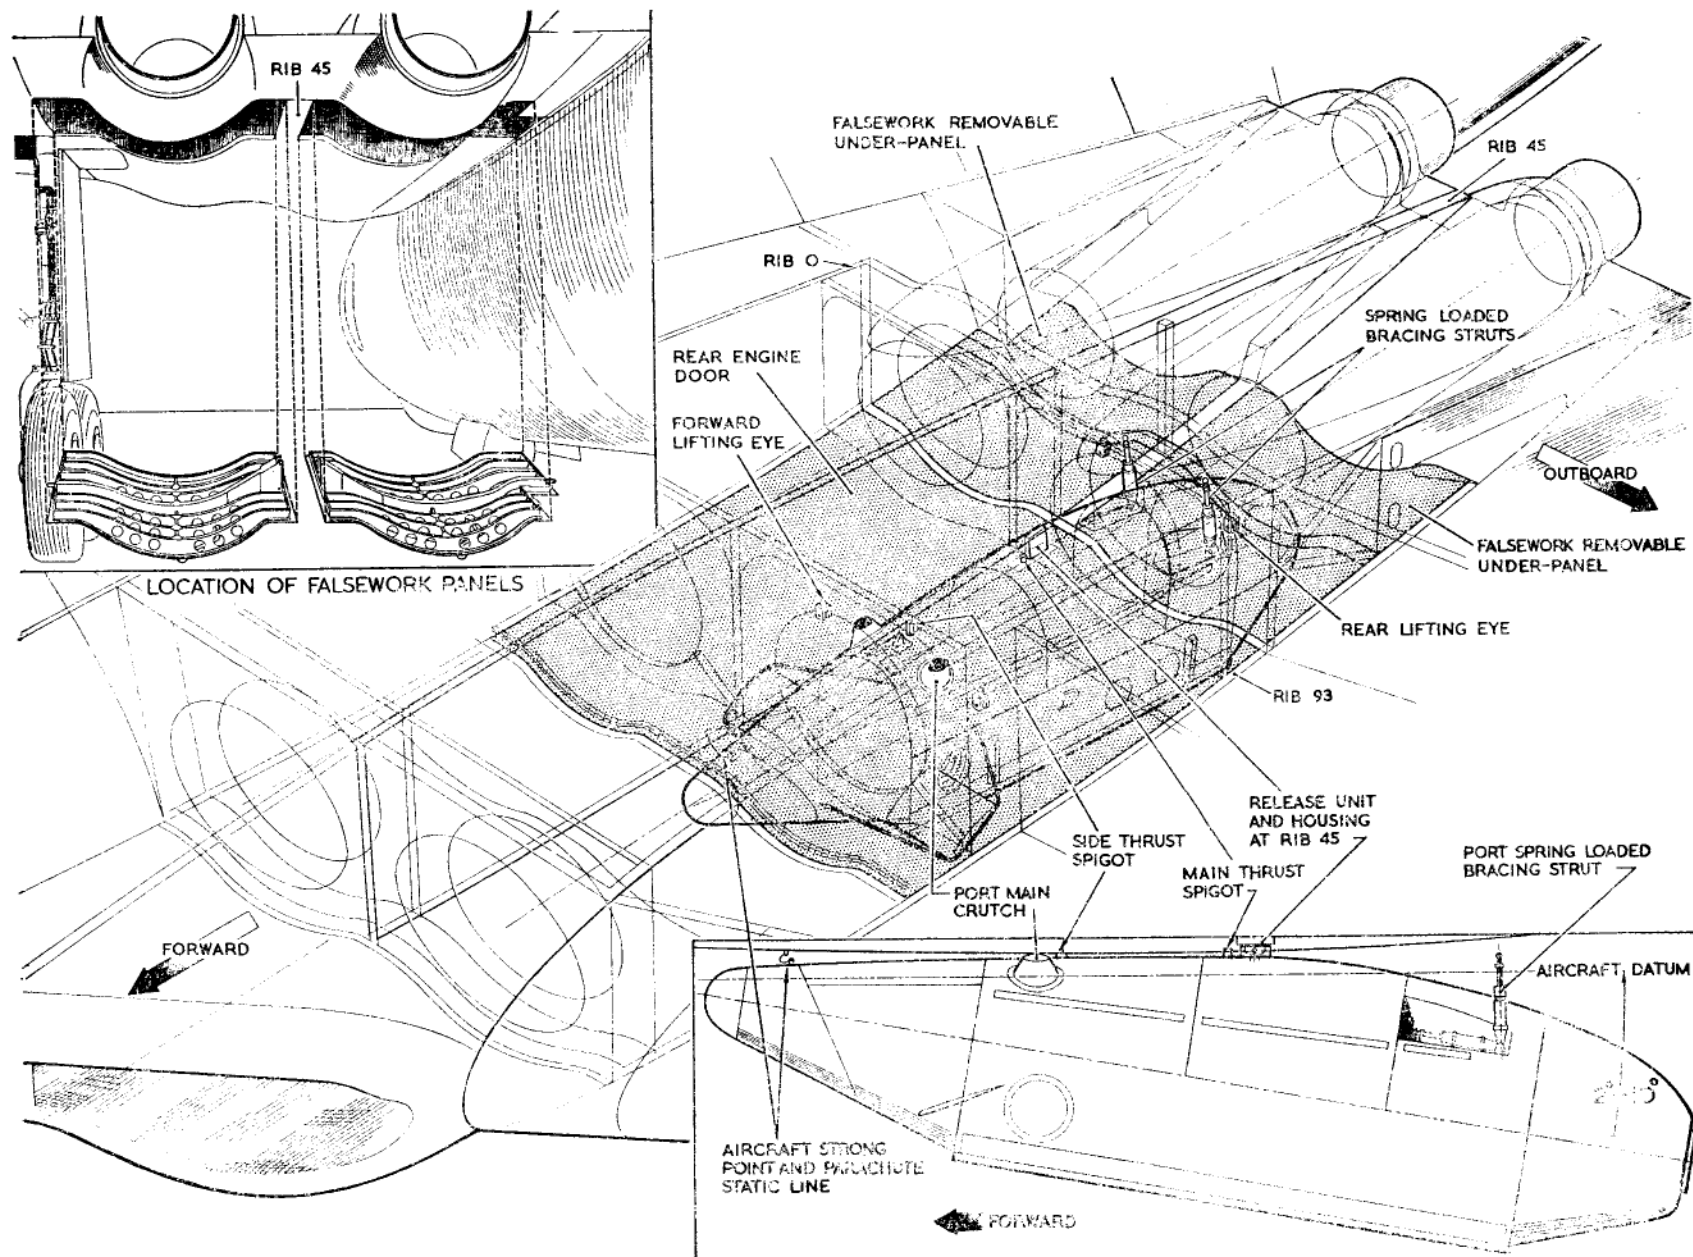
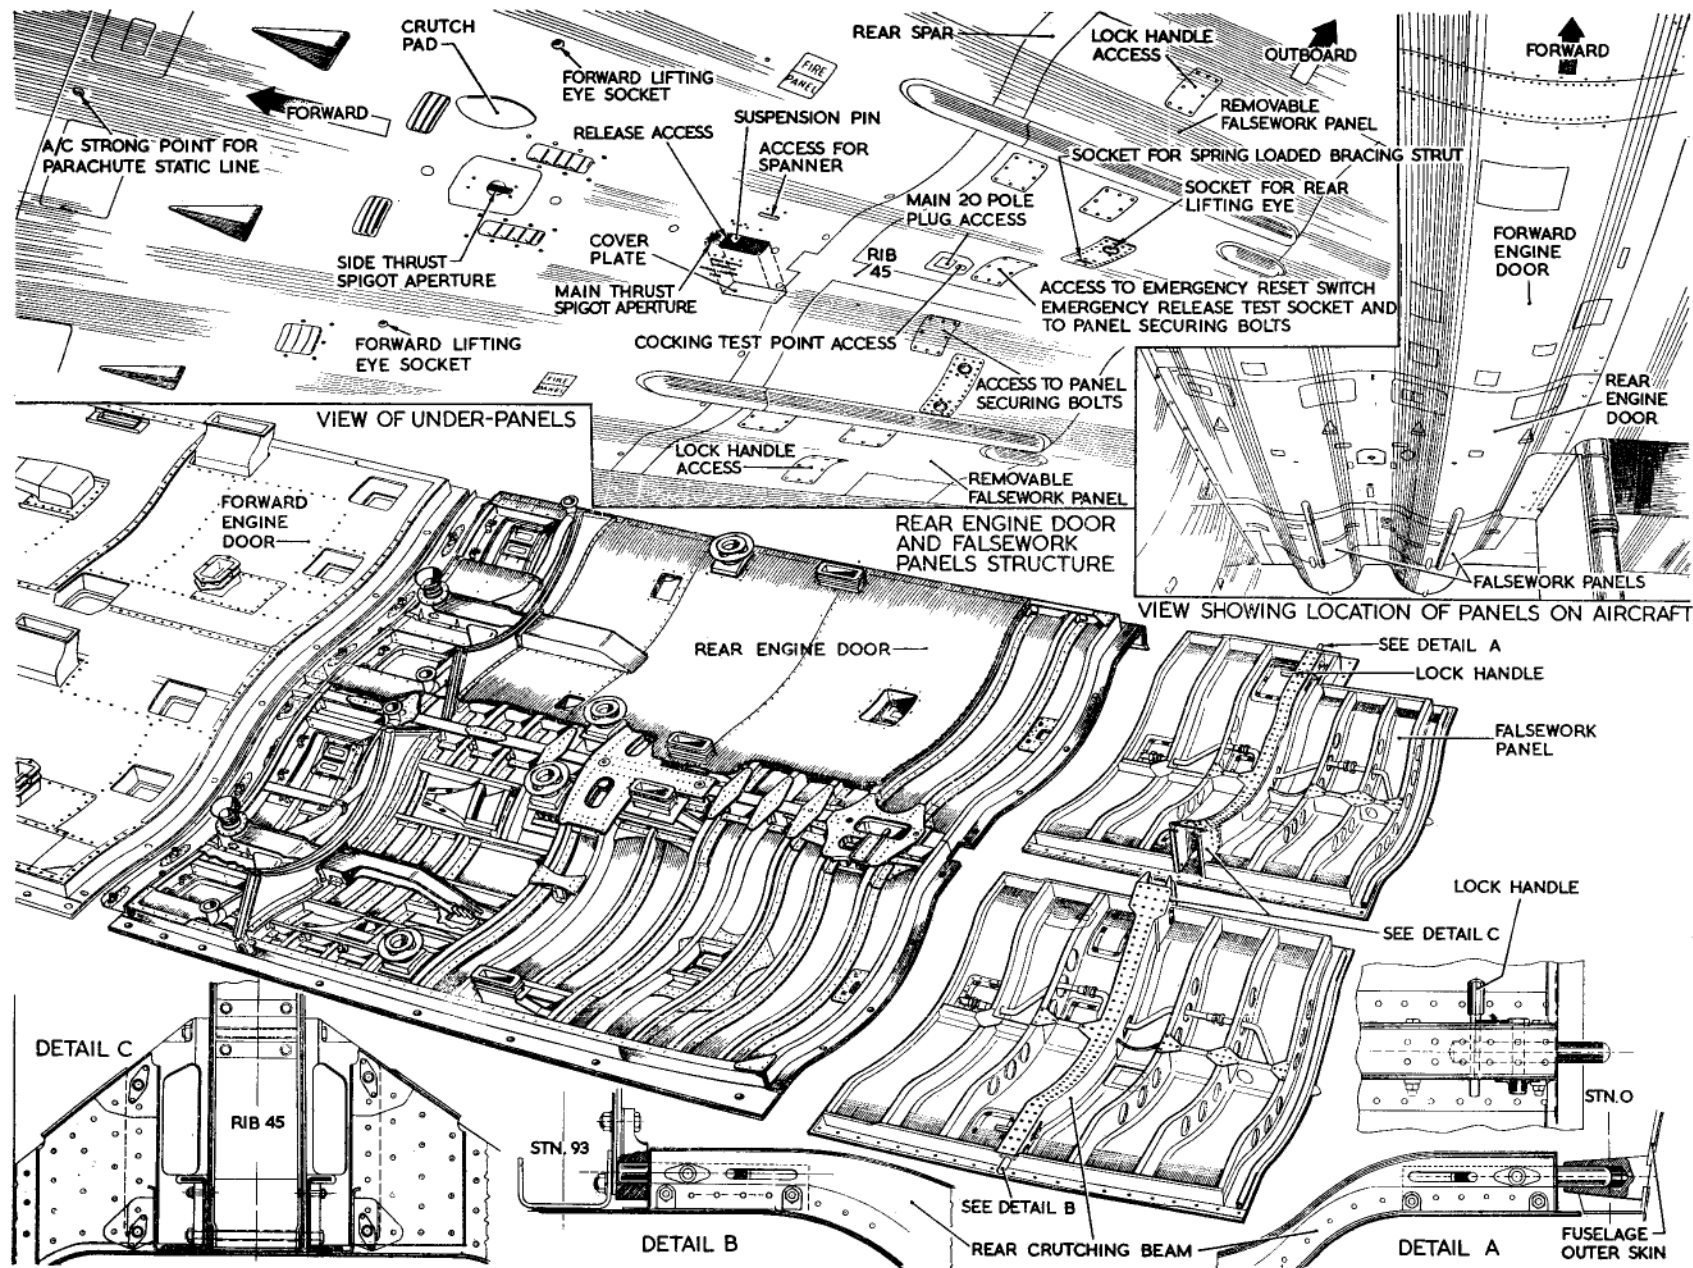

Fig. 1. R.A.T.O. unit location (port)
Fig. 3. Rear engine door and falsework panels
1. R.A.T.O. units can be fitted to Valiant aircraft that are structurally altered in accordance with Mod. 1756 (*Vol. 2, Leaflet G.81*), one unit being suspended from an electro-mechanical release unit No. 2 Mk. 1, Ref. No. 26SR/13780 (*Book 3, Sect. 7, Chap. 2*), retained in a housing fitted into falsework rib 45 of each inner plane (*fig. 1*), and crutched by adjustable arms to a pre-determined position. The structural alterations include strengthening the engine doors and falsework panels (*fig. 3*) to permit the extra loading, and to provide crutching points and facilities for fitting the release unit housings.
- (1) Remove the rear engine door (*Sect. 3, Chap. 2, para. 43*).
- (2) Open the access panel on rib 45 in-board web.
- (3) Offer up the housing, Ref. No. 26SR/13781, to the aperture in rib 45, with the mechanical release operating rod towards the inner plane trailing edge. With the housing not fully home and the release unit contact switch recess in the housing visible, insert the contact switch and secure it with the retaining pin which passes through the housing and switch.
(4) Fit a dummy unwired contact switch into the housing rear face recess, to serve as a seal against ingress of moisture and foreign matter.
(5) Push the housing into position and insert the two lower securing bolts to temporarily retain it.
(6) With the actuator in the fully-extended position, fit the actuator housing. This is retained in position by six bolts, the lower of which pass through and retain the release housing; tighten all securing bolts.
(7) Using the access panel on rib 45 web, unlock the mechanical release rod lock nut and release the fork-end from the actuator lever. Ensure that the actuator is still fully extended, slip the rod eye-end over the mechanical release-rod hook and adjust the rod until the fork-end can be reassembled to the lever, without tension on the release spring. Tighten the lock nut.
(8) Close and secure the rib web access panel.
(9) Using a $\frac{1}{2}$ in. B.S.F. spanner through the slot in the rear engine door (*fig. 3*) turn the suspension pin nut to withdraw the pin from the release unit opening.
(10) Refit the engine door. Turn the suspension pin nut to move the pin back into position in the release unit housing, ensuring that the door pin holes align correctly.